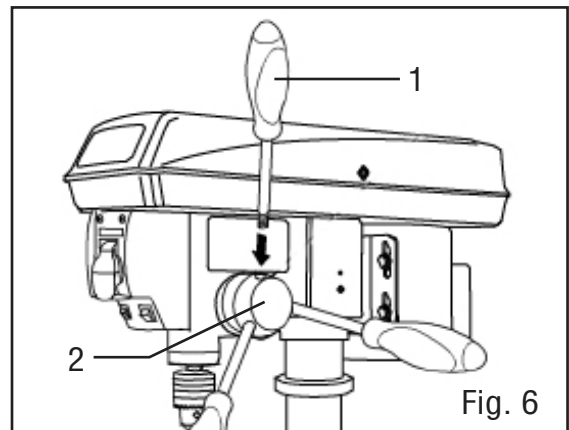

Fig. 6
## FEED HANDLES (FIG. 6)
1. Insert the three feed handles (Fig. 6 - 1) into the threaded openings on the feed hub (Fig. 6 - 2).